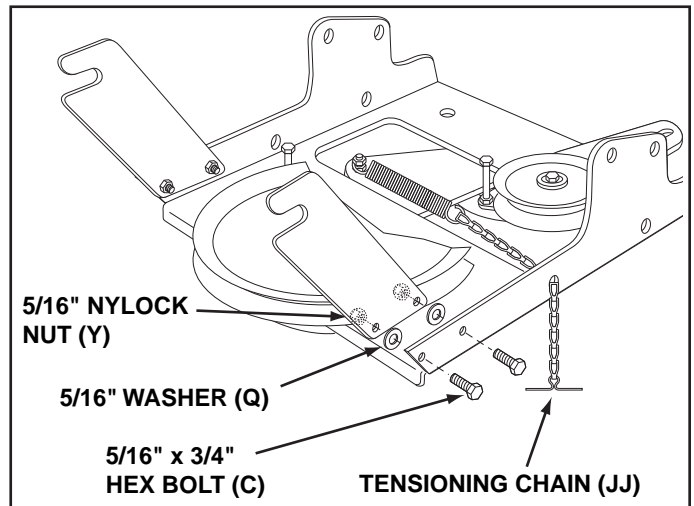

FIGURE 30
STEP 30: (SEE FIGURE 30)
- Attach the two suspension arms to the inside of the clutch/idler assembly using two 5/16" x 3/4" hex bolts (C), 5/16" washers (Q) and 5/16" nylock nuts (Y) for each arm. Place the washers between the arms and the assembly frame.